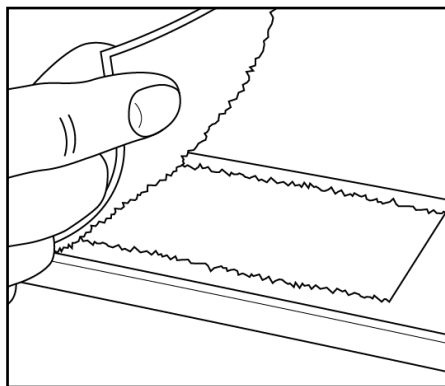

Fig.33
4. Reposition the Awnbrella arm back into the hanger blocks and roller tube, then use alcohol to clean the awning fabric directly opposite the black Velcro patch on the back of the Awnbrella arm. Attach a white Velcro patch to the black Velcro patch on the Awnbrella arm (**Fig.33**).